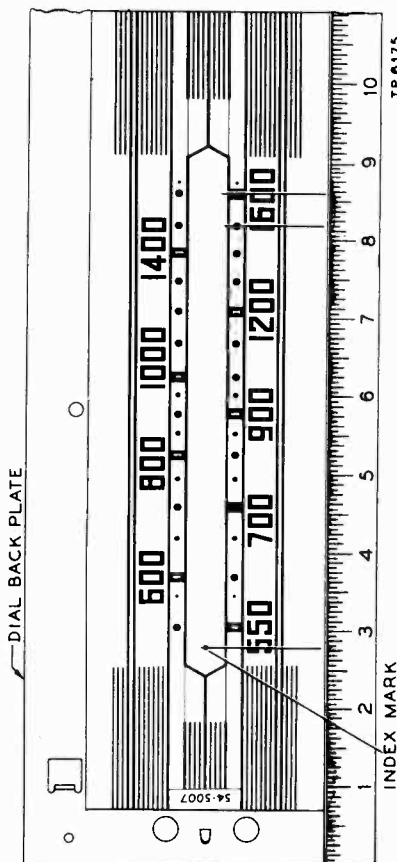

Figure 7. Calibration Measurements for Dial Backplate
**DIAL**—Calibration and pointer-index measurements are shown in figure 7. With tuning condenser fully meshed, set pointer to index mark.